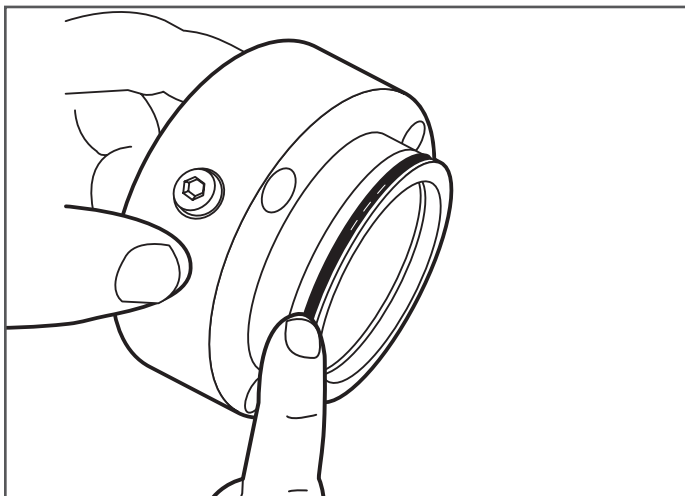

Figure 7-13
- 14.** Ensure outer o-ring is not damaged or torn (Figure 7-13).